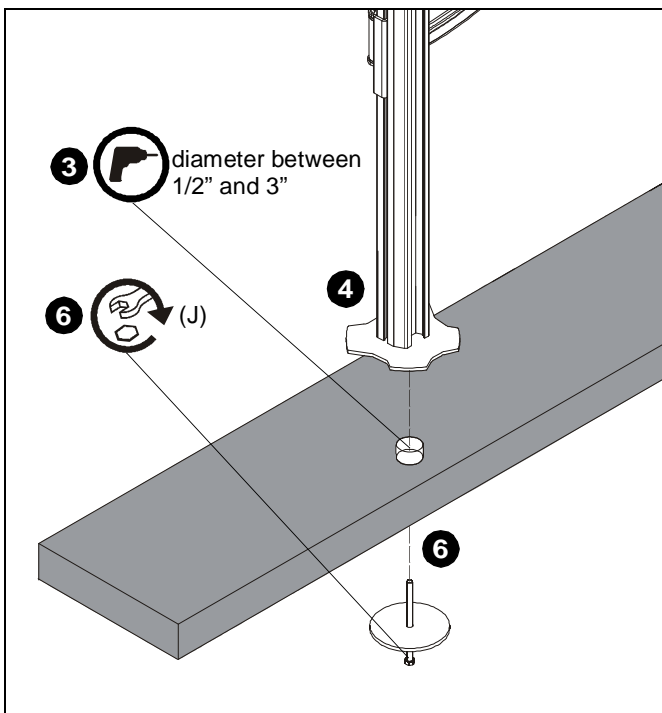

Figure 2
3. If a hole doesn't already exist, drill a hole in desk with a diameter between 1/2" and 3" at desired mounting location. (See Figure 2)
4. Position mount on desk so that center hole of grommet plate (K) is centered over grommet hole. (See Figure 2)
5. Insert grommet screw (J) through grommet hole and thread into center hole of grommet plate (K). (See Figure 2)
6. Tighten grommet screw (J) until grommet base is tightened against underside of desk and mount is securely mounted to desk. (See Figure 2)